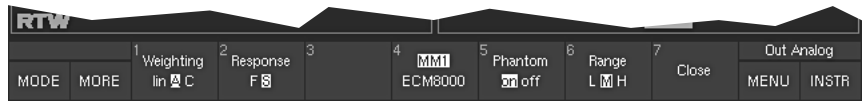

Fig. 5-41: Screen display after selecting the SPL Meter function of the CAL instrument's second function layer
(Button/key 1, see Fig. 5-41)
(Button/key 2, see Fig. 5-41)
(Button/key 4, see Fig. 5-41)
(Button/key 5, see Fig. 5-41)
(Button/key 6, see Fig. 5-41)
(Button/key 7, see Fig. 5-41)